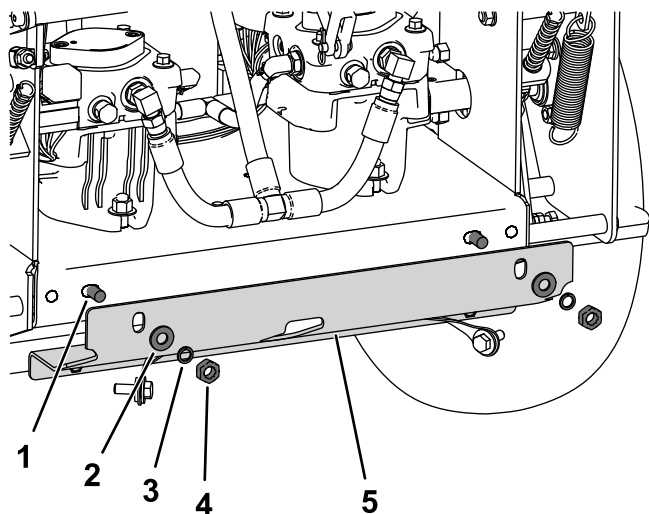

Figure 7
5. Center the drive pulley guard on the rear of the engine frame and install it with 2 carriage bolts (M10 x 25 mm), heavy washers (M10), spring washers, and nuts (M10) as shown in Figure 7.